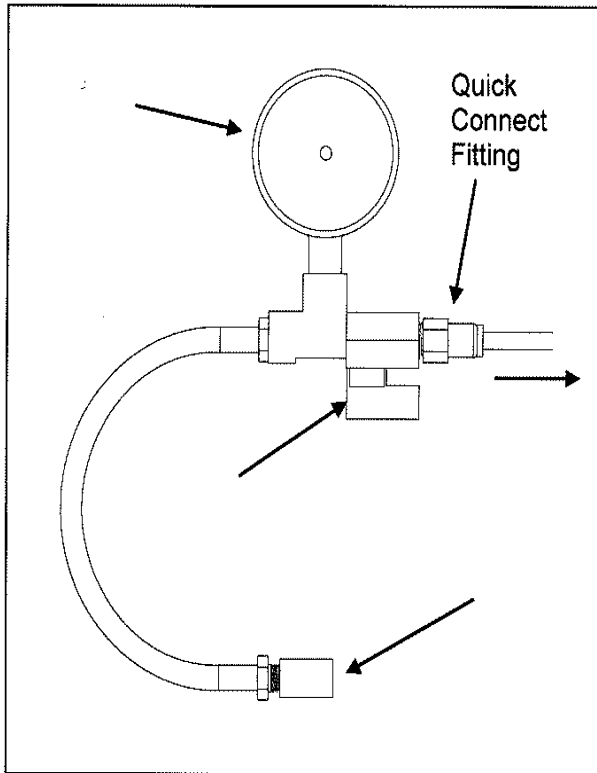

Figure 2
Step 1: (See Figure 2)
Step 3: (See Figure 2)